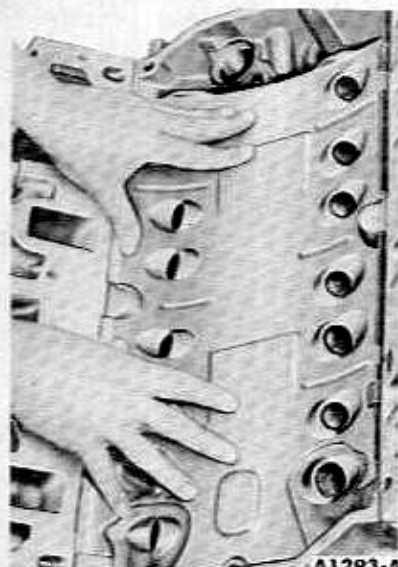

FIG. 52—Baffle Plate Installation
13. Position the baffle plate in the valve push rod chamber. Press it into place with the hands (Fig. 52).